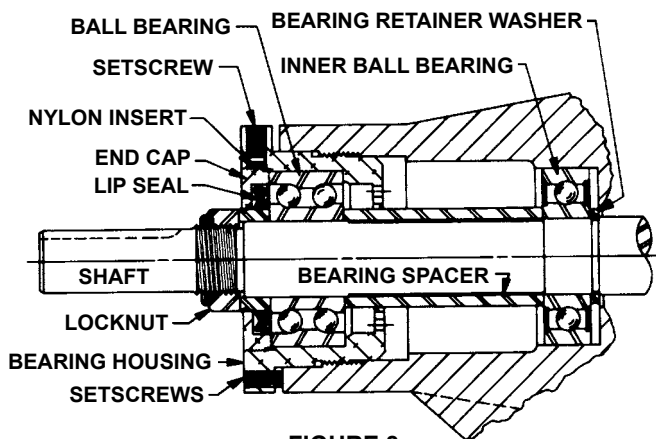

FIGURE 8
NOTE: AS, AK and AL size pumps do not have a snap ring; a bearing retainer washer must be assembled over the end of the shaft before the bearing is assembled. See **figure 8**, page 6.
7. Place the bearing spacer over the shaft and against the single row ball bearing in the casing (AS, AK and AL size pumps). See **figure 8**, page 6.
NOTE: On AS, AK and AL size pumps, install the lip seal in the bearing housing end of the cap. The lip should face towards the end of the shaft. Put the bearing spacer sleeve in the lip seal and install in the bearing housing and tighten the setscrews securely. See **figure 8**, page 6.